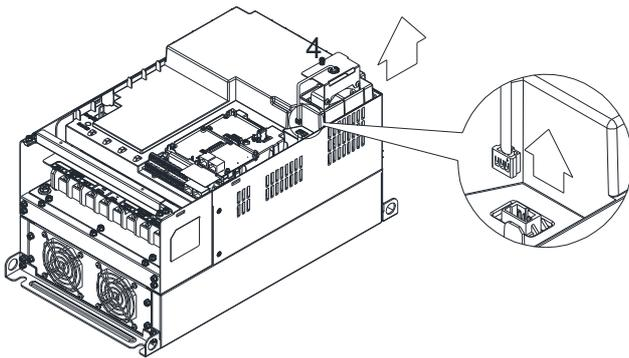

Figure 3
- Loosen screw 4 (figure 3) and disconnect fan power and pull out the fan. (As shown in the enlarged picture 3) Screw 4 『Torque : 10~12kgf-cm (8.6~10.4lb-in)』